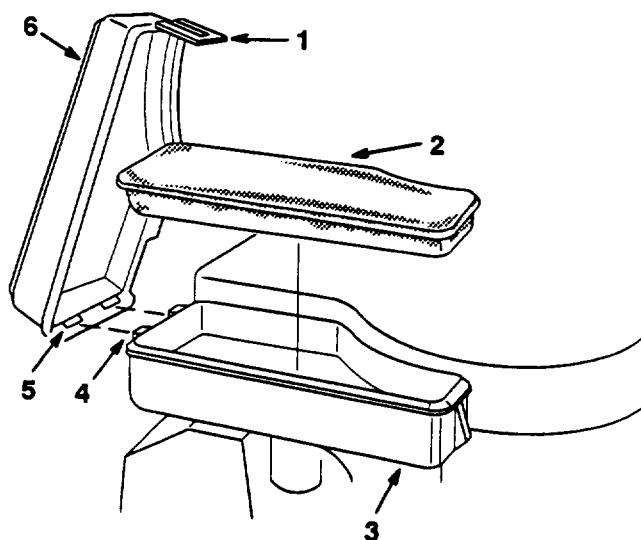

Figure 29
1. Carefully insert the foam element into the air cleaner body (Fig. 29). Make sure the top outside edges of the foam element extend over the top edges of the air cleaner body to form a protective seal.
2. Hook the slots in the air cleaner cover onto the tabs and press down on the air cleaner cover until the latch snaps into place (Fig. 29).